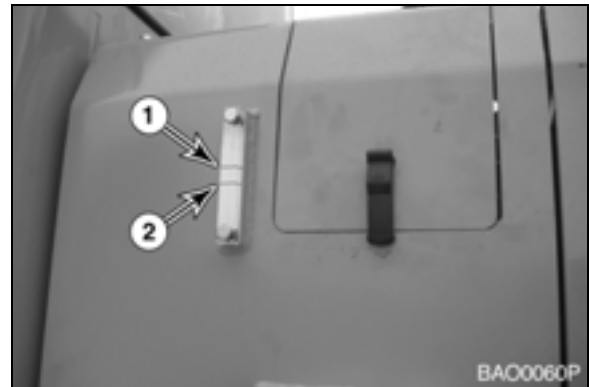
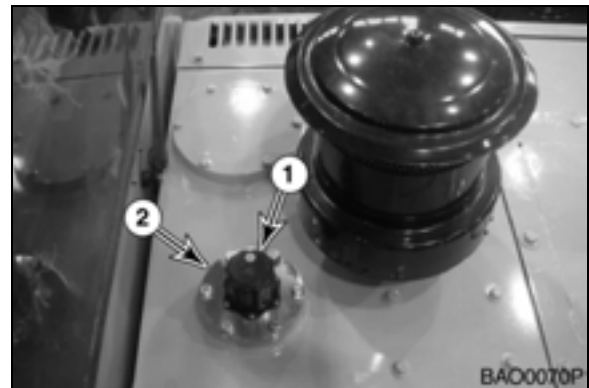

Figure 10
Figure 11
4. Check sight gauge that is attached to hydraulic reservoir. Oil level must be between upper limit (1, Figure 10) and lower limit (2) shown on gauge.
5. To add hydraulic oil, turn the breather cap (1, Figure 11) slowly to allow the pressurized air to vent.
6. Remove the upper cover (2, Figure 11) of the hydraulic oil tank and add oil to proper level by checking sight glass (Figure 10).